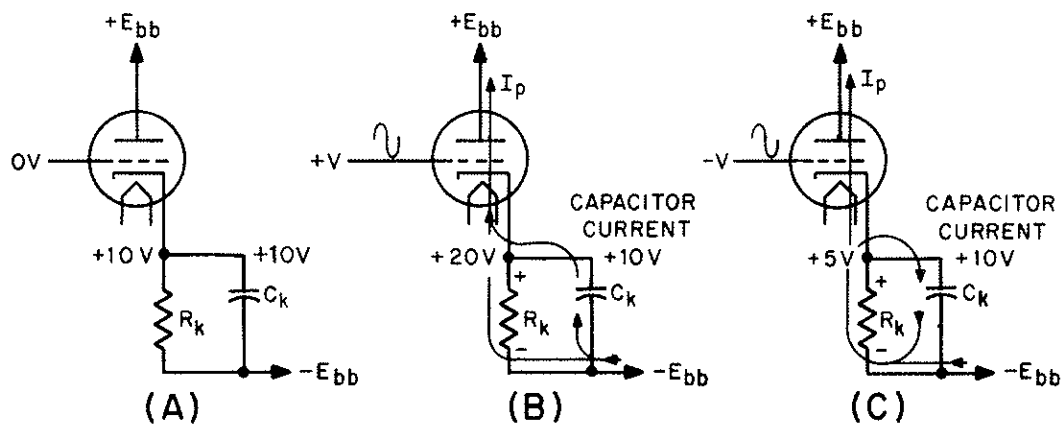

Figure 1-23.—Effect of the bypass capacitor.
The action of  $C_k$  will be explained using figure 1-23. View (A) shows the circuit under quiescent conditions. With some conduction through the tube, the cathode and tops of  $R_k$  and  $C_k$  are at +10 volts.